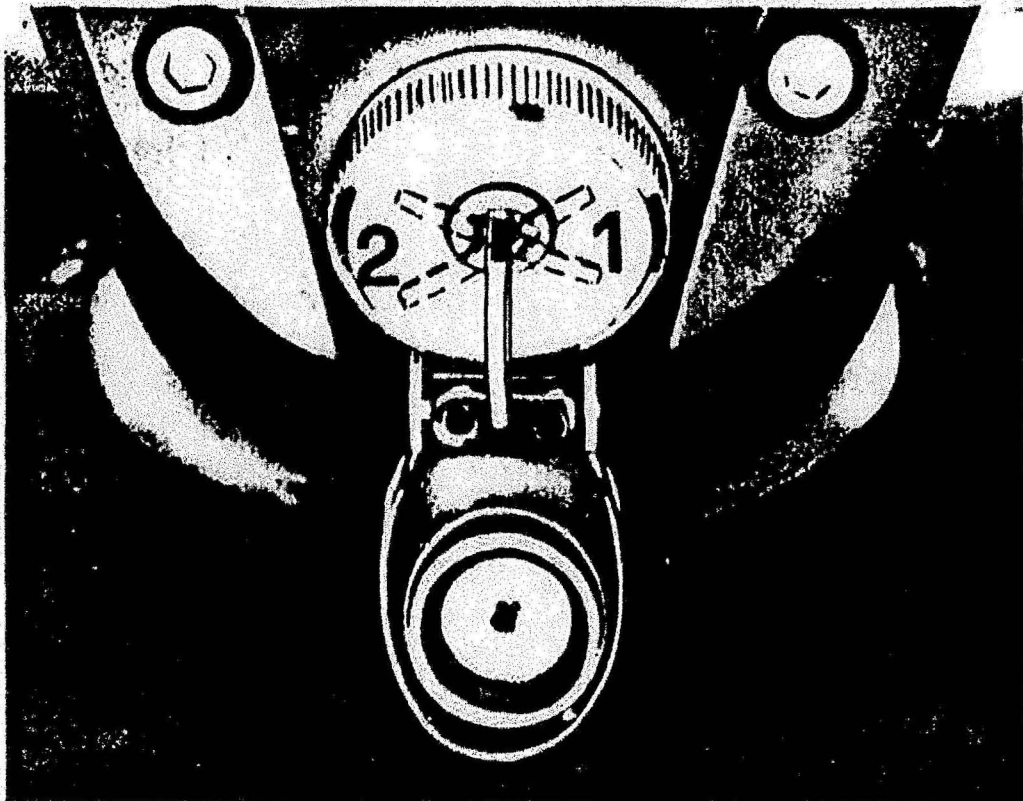

Fig. 8
2) Ignition switch and key (fig. 8)
Before starting the engine ensure that there is sufficient fuel in the tank, the crankcase oil is at correct level, the ignition key in position «2» (fig.8), and that all the warning lights in the panel are on (2 red, one green, one orange).